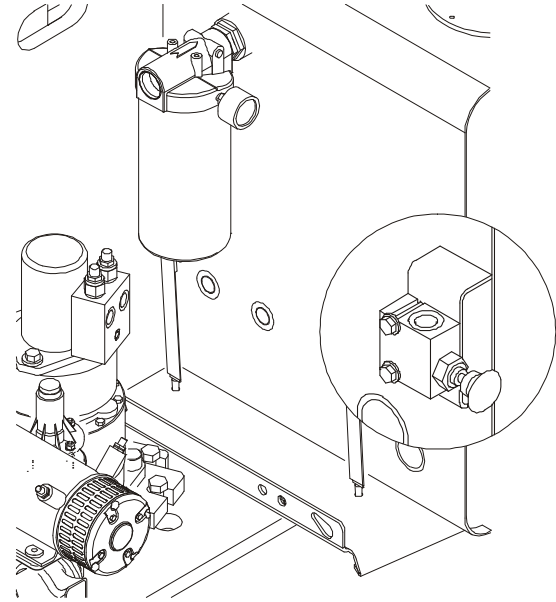

Figure 4-8. Re-leveling Valve
3. Pull and hold the red relevel knob located next to the main control valve. Refer to Figure 4-8.